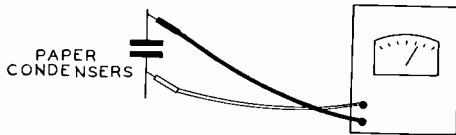

Fig. 12
**Paper Condenser.** In Fig. 12 the application of the ohmmeter to a paper condenser is shown. Condensers normally should pass signal currents or a.c. currents but not d.c. currents. The amount of current passed by the paper condensers should be very small. This means that the leakage re-